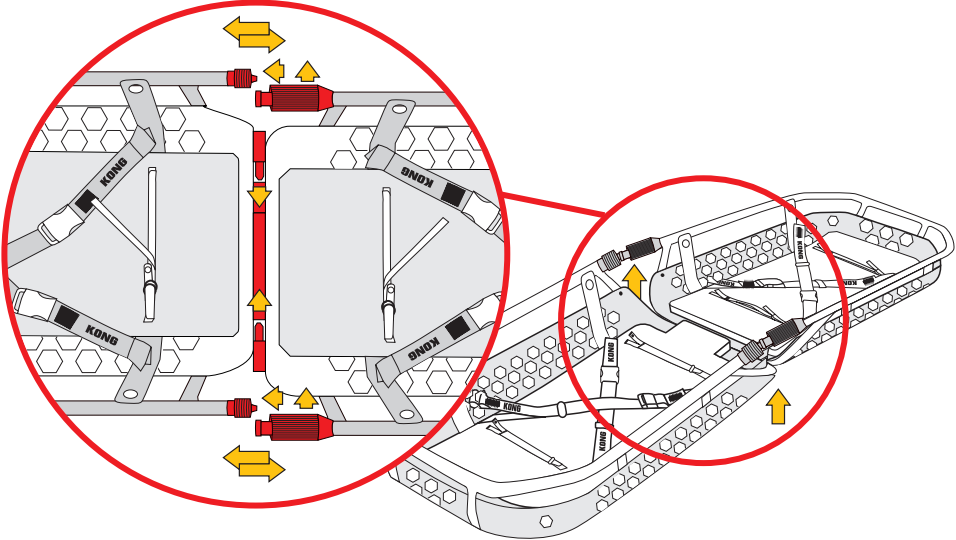

Fig.7
- bring the two halves closer together (fig. 7),